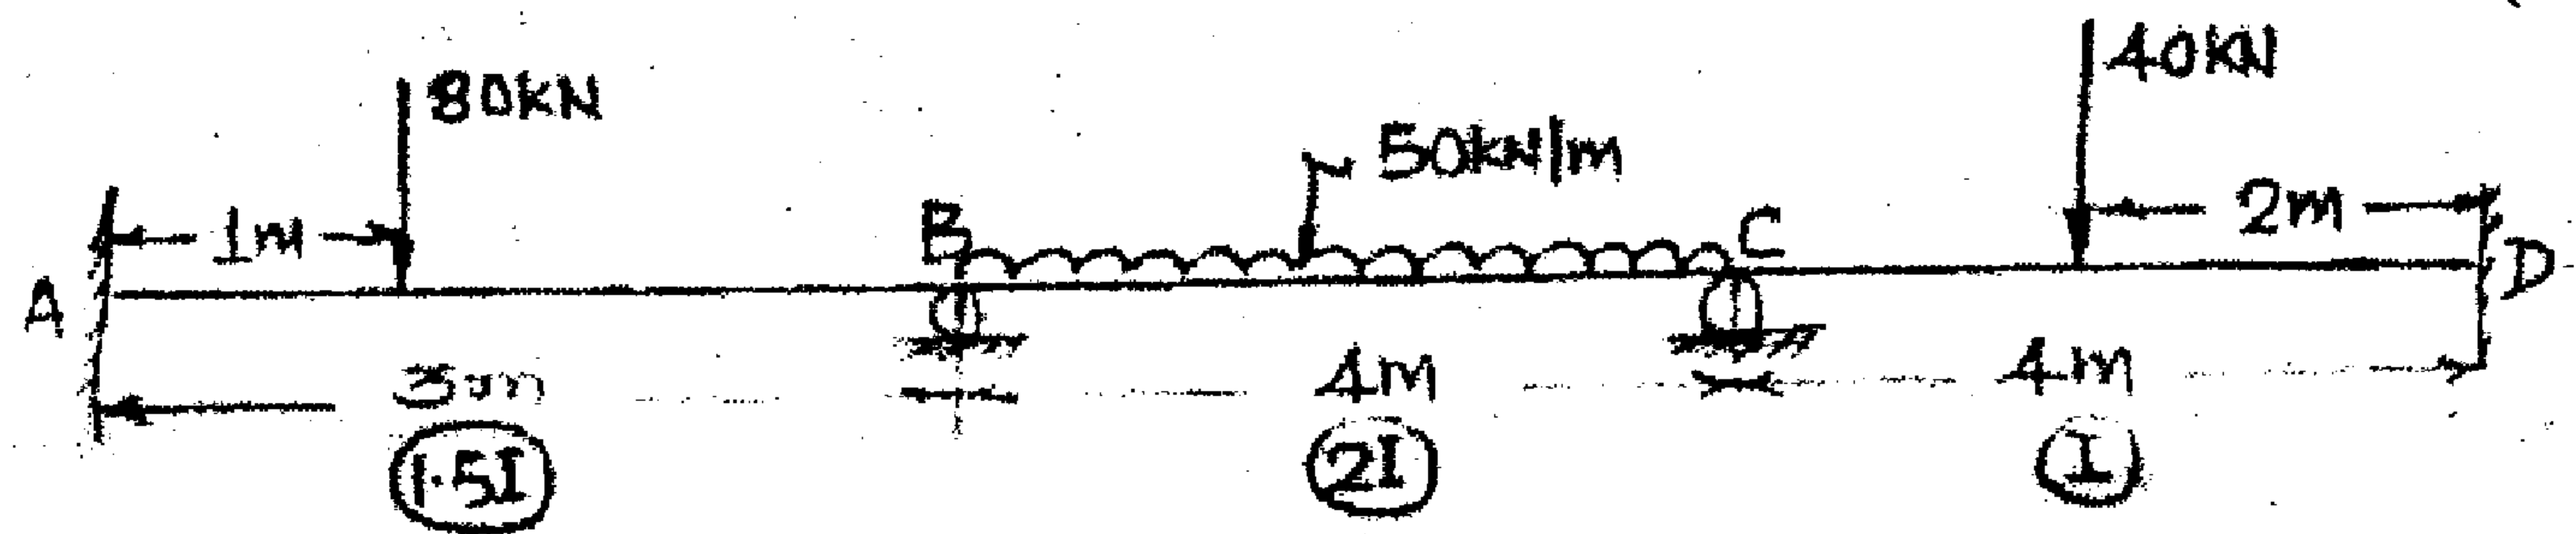

Fig. Q5
- 5 Determine support moments for the continuous beam shown in figure Q5 by Kani's method. The relative I values are indicated along the member in each span. EI is constant. Sketch the B.M.D., S.F.D. and elastic curve. (20 Marks)